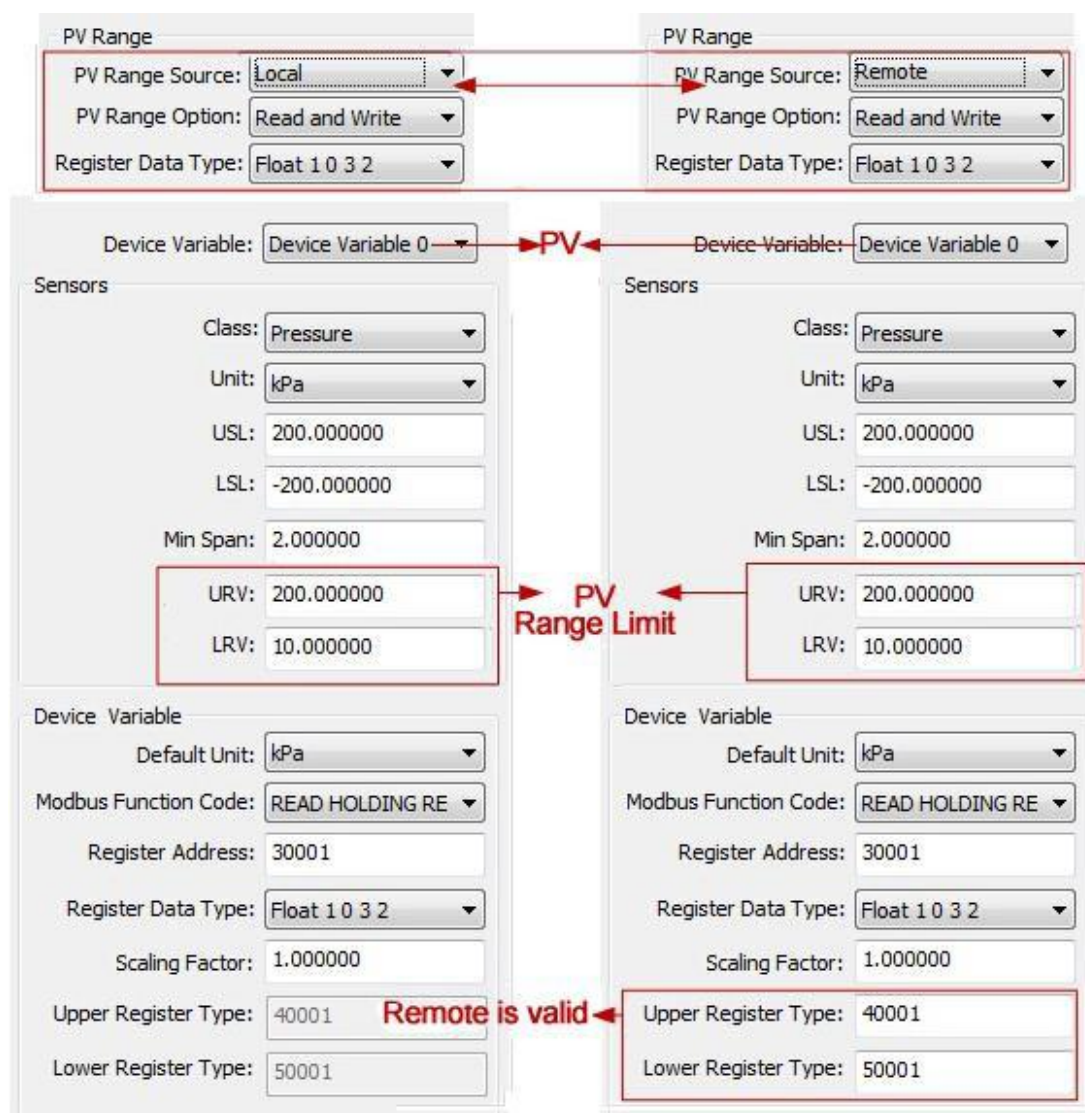

Figure 3.5 PV Range Operation Examples
In the following Figure 3.5, the status, that device variable 0 is mapped into primary variable (PV) under „Local“ and „Remote“ mode, is simply described.